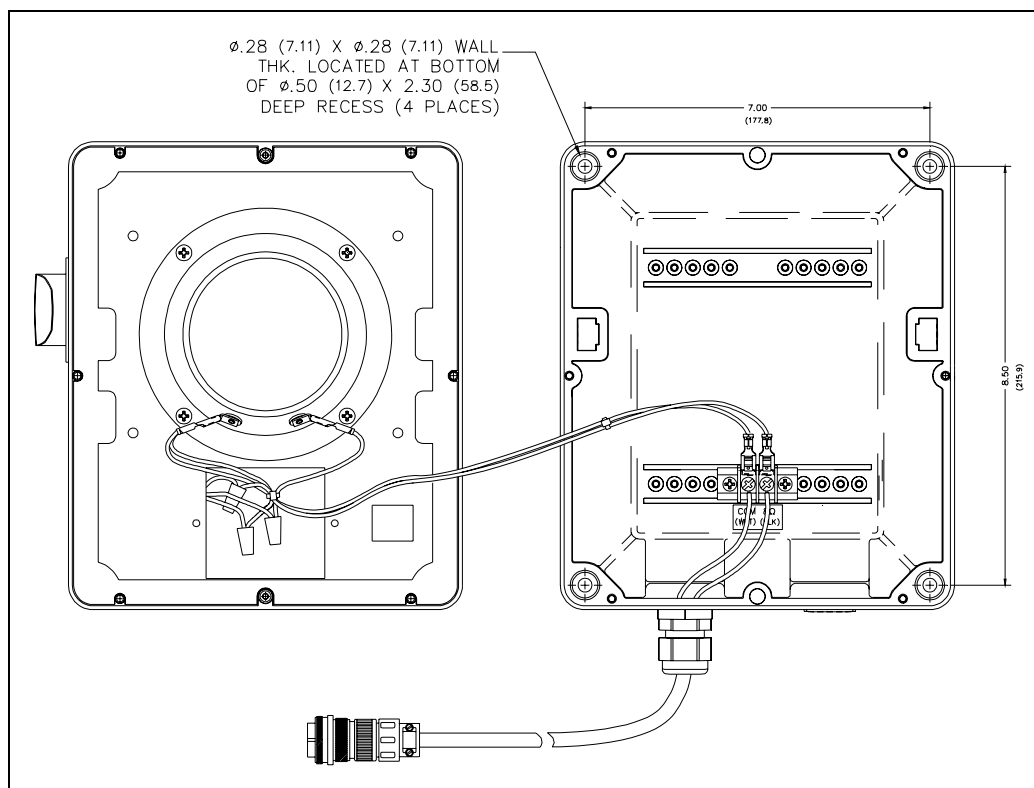

Figure 2. Mounting Hole Details
There are four 0.280-inch mounting holes located in the four corners of the rear enclosure for mounting the speaker. Refer to Figure 2.
4. Mount the rear enclosure to the desired surface using the mounting holes shown in Figure 2.